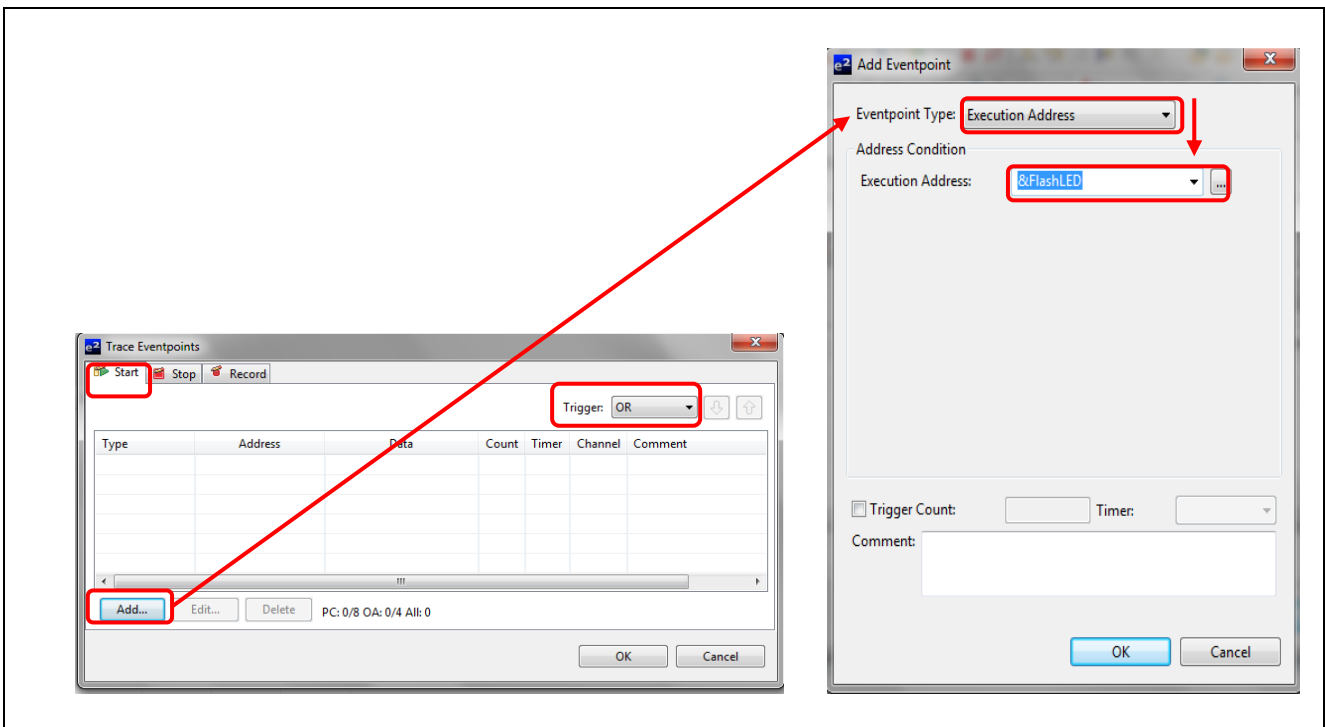

Figure 8 Configure [Trace Start] condition
2. Set the [Trace Start] condition as shown in Figure 8.